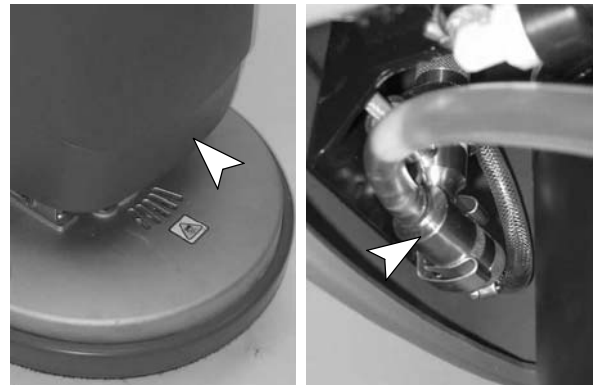

FIG. 77
2. Lower the scrub head and remove the detergent injector from spring clamps (Figure 77).